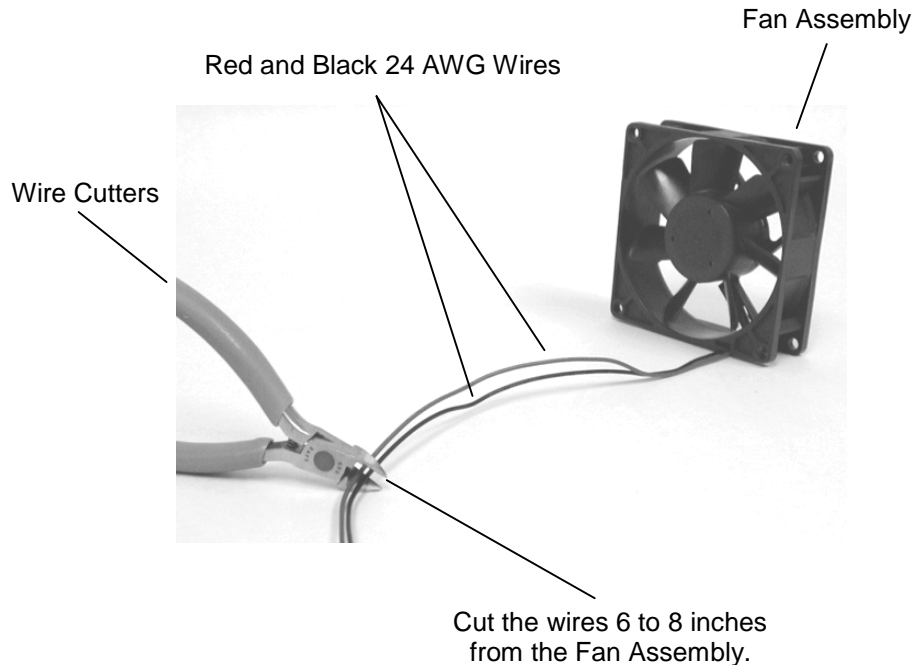

Figure 7-18 Cutting the wires on the defective fan
8. Carefully cut the red and black wires six to eight inches away from the Fan Assembly (Figure 7-18) and then remove the Fan Assembly from the TLS.
- Carefully cut the red and black wires six to eight inches away from the Fan Assembly (Figure 7-18) and then remove the Fan Assembly from the TLS.